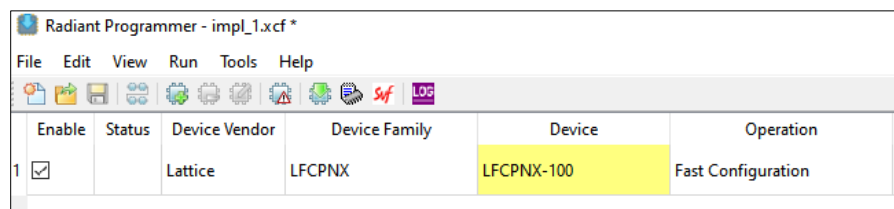

Figure 6.10. Select Device for Programming
- If the **Device Family** shows as **Generic JTAG Device**, click **Scan Device**, as shown in Figure 6.10, to update the **Device Family** information automatically.